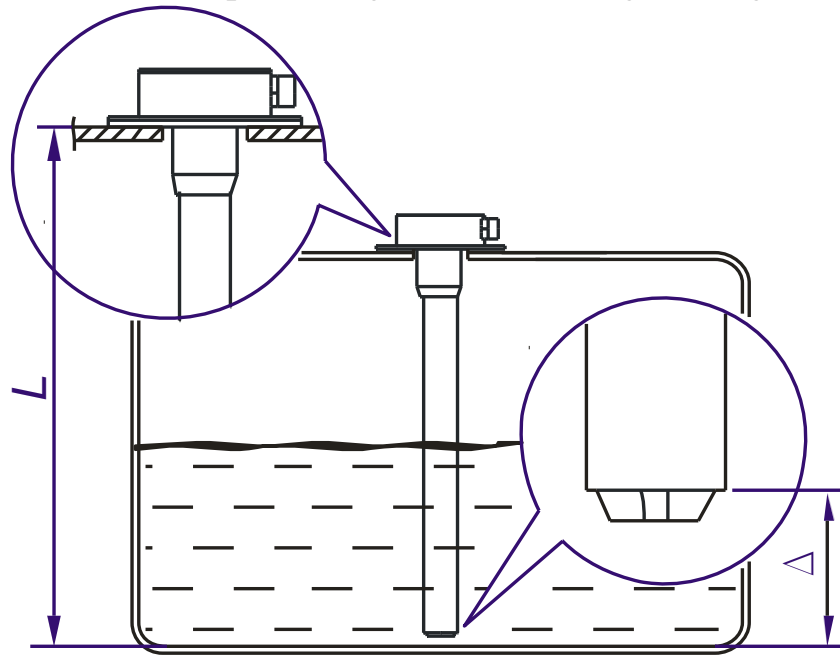

Figure 1.4 - Evaluation of fuel probe length when ordering
1.1.4.3 Evaluation of fuel probe length when ordering (See figure 1.4)